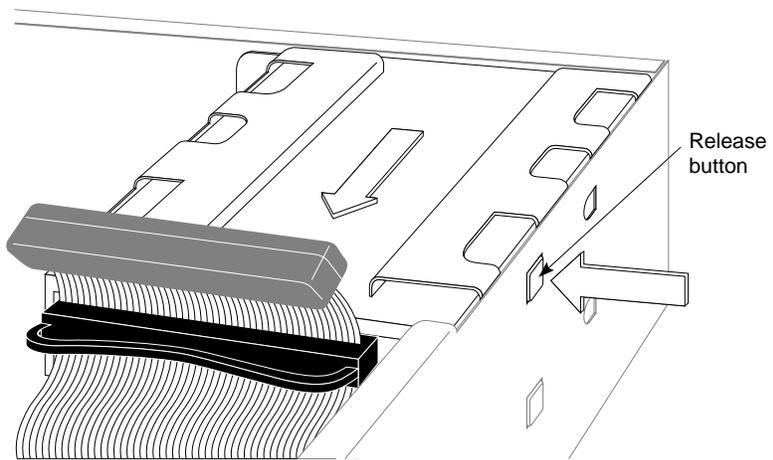

Figure 6-2 Removing An Internal Drive Bracket
6. Remove the empty drive bracket (with the face plate attached) by pressing the release button that protrudes through the side of the chassis and pulling the bracket toward you, as shown in Figure 6-2.
Figure 6-2 shows how to remove the upper drive bracket, but the procedures for removing both upper and lower drive brackets are the same. Save the drive bracket and face plate. If you remove the drive and do not replace it, you must reinstall them.